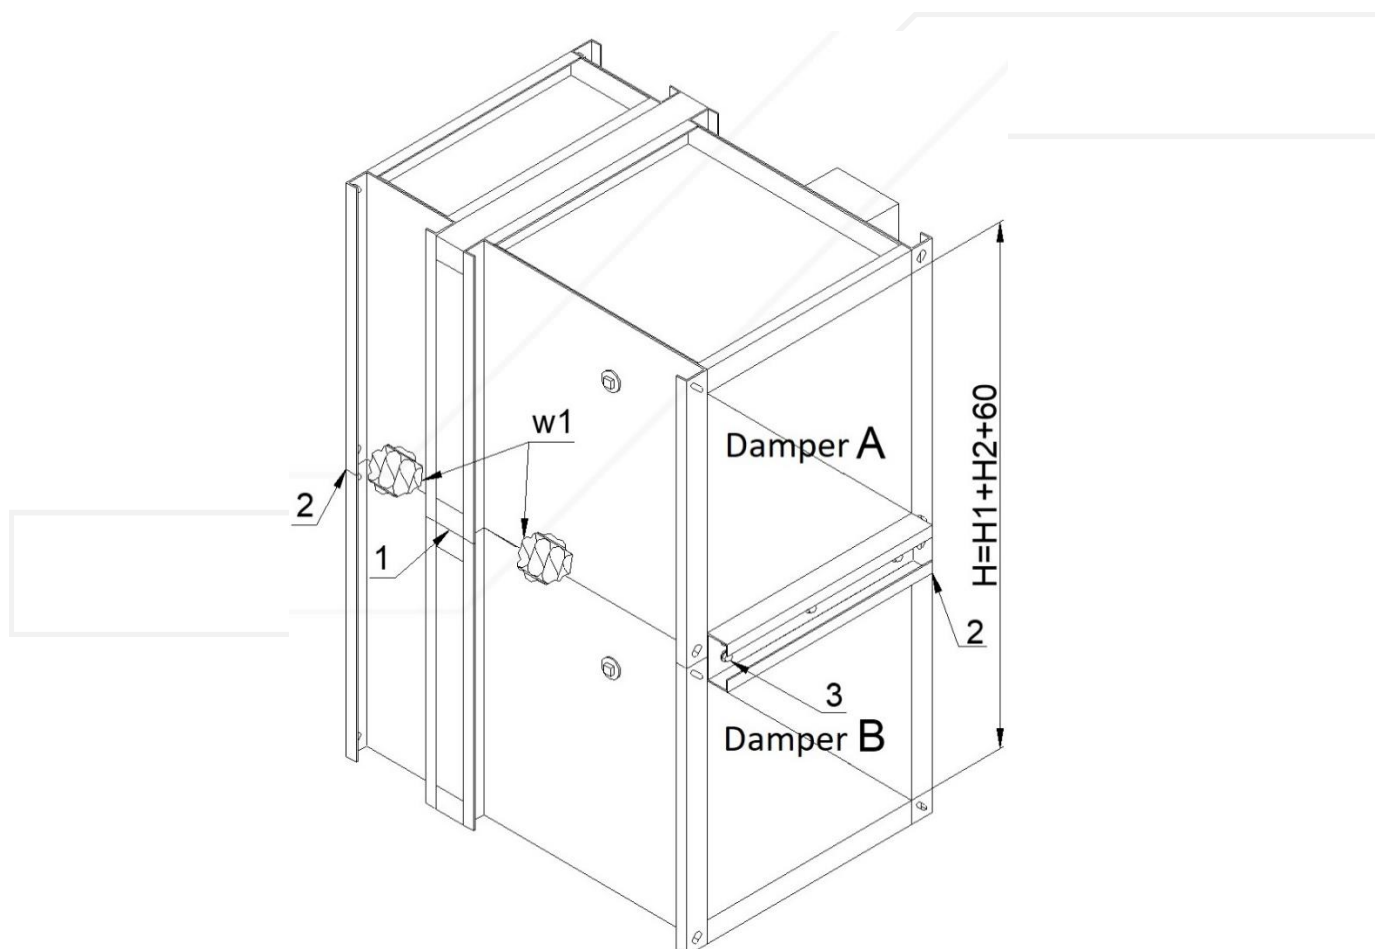

Figure 13. Arrangement 1 - vertical battery consisting of two fire dampers KWP
Arrangement 3 - horizontal battery consisting of two fire dampers KWP (Figure 13)
- Fix the gasket on insulating spacer of one of adjoining fire dampers (position (1) in the Figure 13).
- Set together the sides of fire damper A and the fire damper B (where the gasket was fixed) and assemble them together on the front and back with use of perforated assembly strips (2) and self-tapping screws M6x10 (3), which should be tightened into the openings in fire damper body. In order to carry out the correct assembly, 4 self-tapping screws should be used per each assembly strip with length of 1200 [mm].
- a. Fix the gasket on insulating spacer of one of adjoining fire dampers (position (2) in the Figure 13).